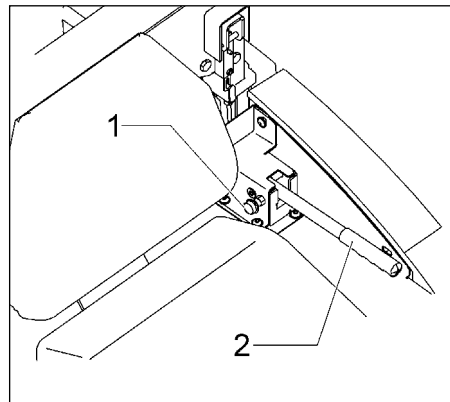

Fig.11
- Pull the safety knob (Fig. 11/1) of the release lever (Fig. 11/2).
- Release swinging of the hopper by release lever (Fig. 11/2).